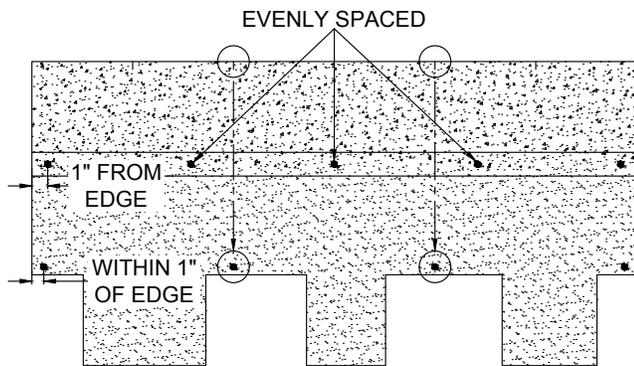

Figure 16 - Windsor®, 9-Nail Fastening Pattern
- Place five (5) fasteners in the high nailing area, equally spaced across the shingle, with the outer fasteners 1" (25 mm) in from each edge.
- Place four (4) fasteners in the low nailing area, approximately ¾" (19 mm) above the tabs, making sure the fasteners will be covered by shingle tabs in the course above them.
- The two inner notches at the top of the shingle will aid in the alignment of the two inner low nailing area fasteners while the two outer fasteners are placed 1" (25 mm) in from each edge. (See Figure 16)